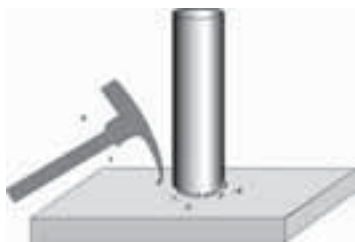

Figure 24: Chipping away weld flux residues
- Welding flux residues are chemically inert in the pickling solutions commonly used by galvanizers; therefore, their existence will produce rough surfaces and coating voids. If a coated electrode is used, all welding flux residues must be removed by wire brushing, chipping, grinding, pneumatic needle gun, or abrasive blast cleaning (*Figure 24*).